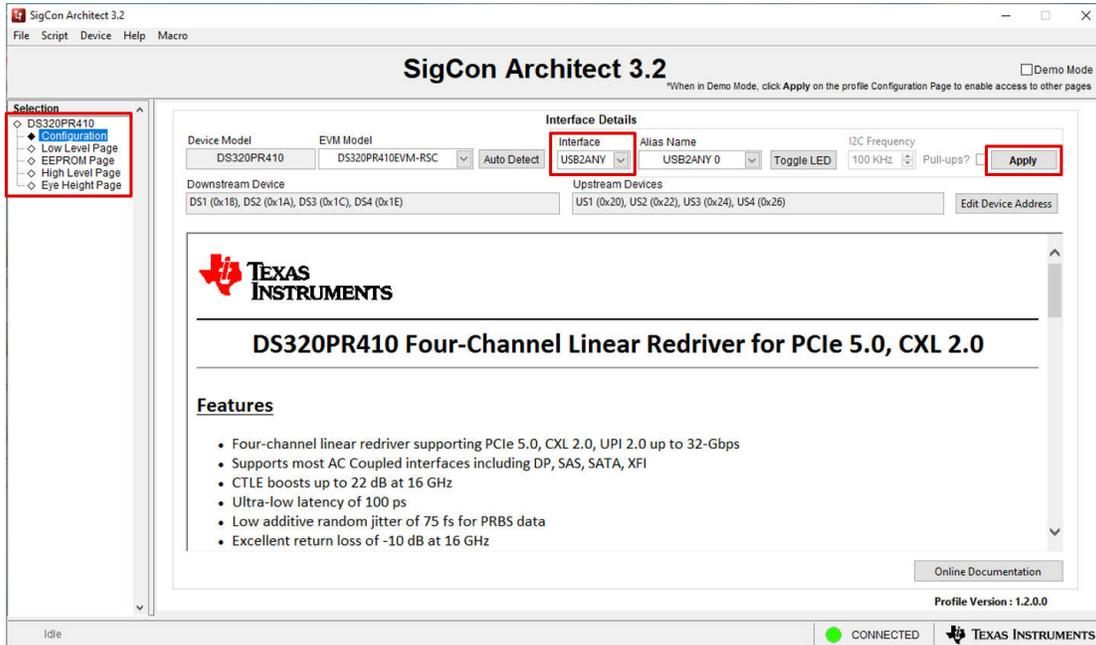

Figure 2-3. Interface Adapter Select and Apply Settings
- Select the correct interface adapter below the *Interface* drop-down menu (USB2ANY or Aardvark). After selecting the correct interface adapter, click *Apply* to connect to the selected DS320PR410 devices. As shown in Figure 2-3, if the correct interface adapter is selected and the SMBus addresses are configured correctly, the status indicator in the bottom-left corner of the GUI shows a green LED and the text *Connected*. After successful connection, the other tabs under the DS320PR410 profile become available for selection. Click the desired tab on the left side of the GUI to begin programming the device / devices.